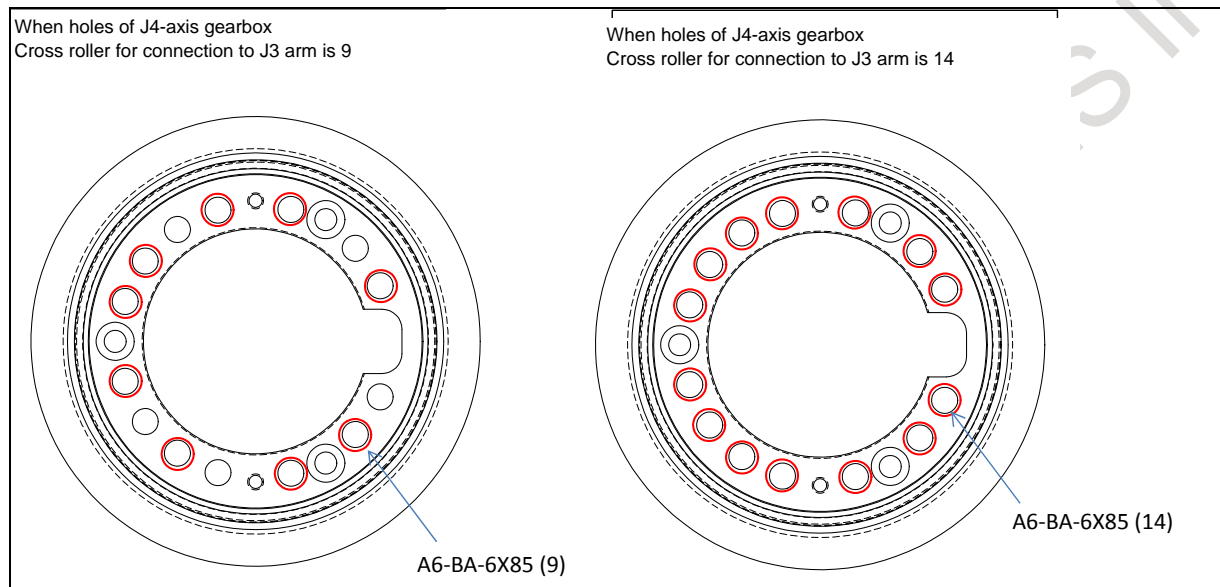

Fig. 6.11 (d) Bolt (1) inserting position
- 14 Remove bolts (9) and the pipe A (10). Then remove bolts (11), the cover (12) and the gasket (13). Referring to Section 6.23, remove old sealant of reducer shaft.
- 15 Please apply parts removed to new J4 axis gearbox by 9 to 14. Please spread LOCTITE according to the table of this paragraph, and tighten by the regulated tightening torque when you install the bolt. In this time, replace gasket (13) by new one. When installing the J3 unit to the J2 arm, apply LOCTITE 518 to J3-axis reducer referring to Section 6.8. When attaching bolts (1), refer to Fig. 6.11 (d).